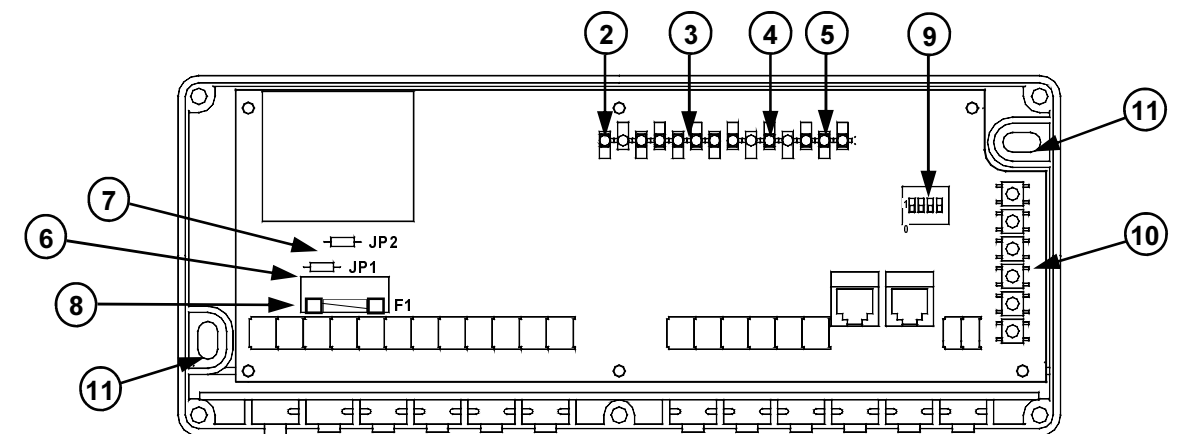

Fig. 2: Internal view
The internal layout is shown in Fig. 2.
The set of pushbuttons (10) for the self-learning of the transmitters codes is also highlighted in Fig. 2.
During the start-up sequence, when the unit is first powered, the leds in the front panel (3)(4)(5) Fig. 2, blink three times.
1. Press the desired channel's button (10) Fig. 2 and keep it pressed.